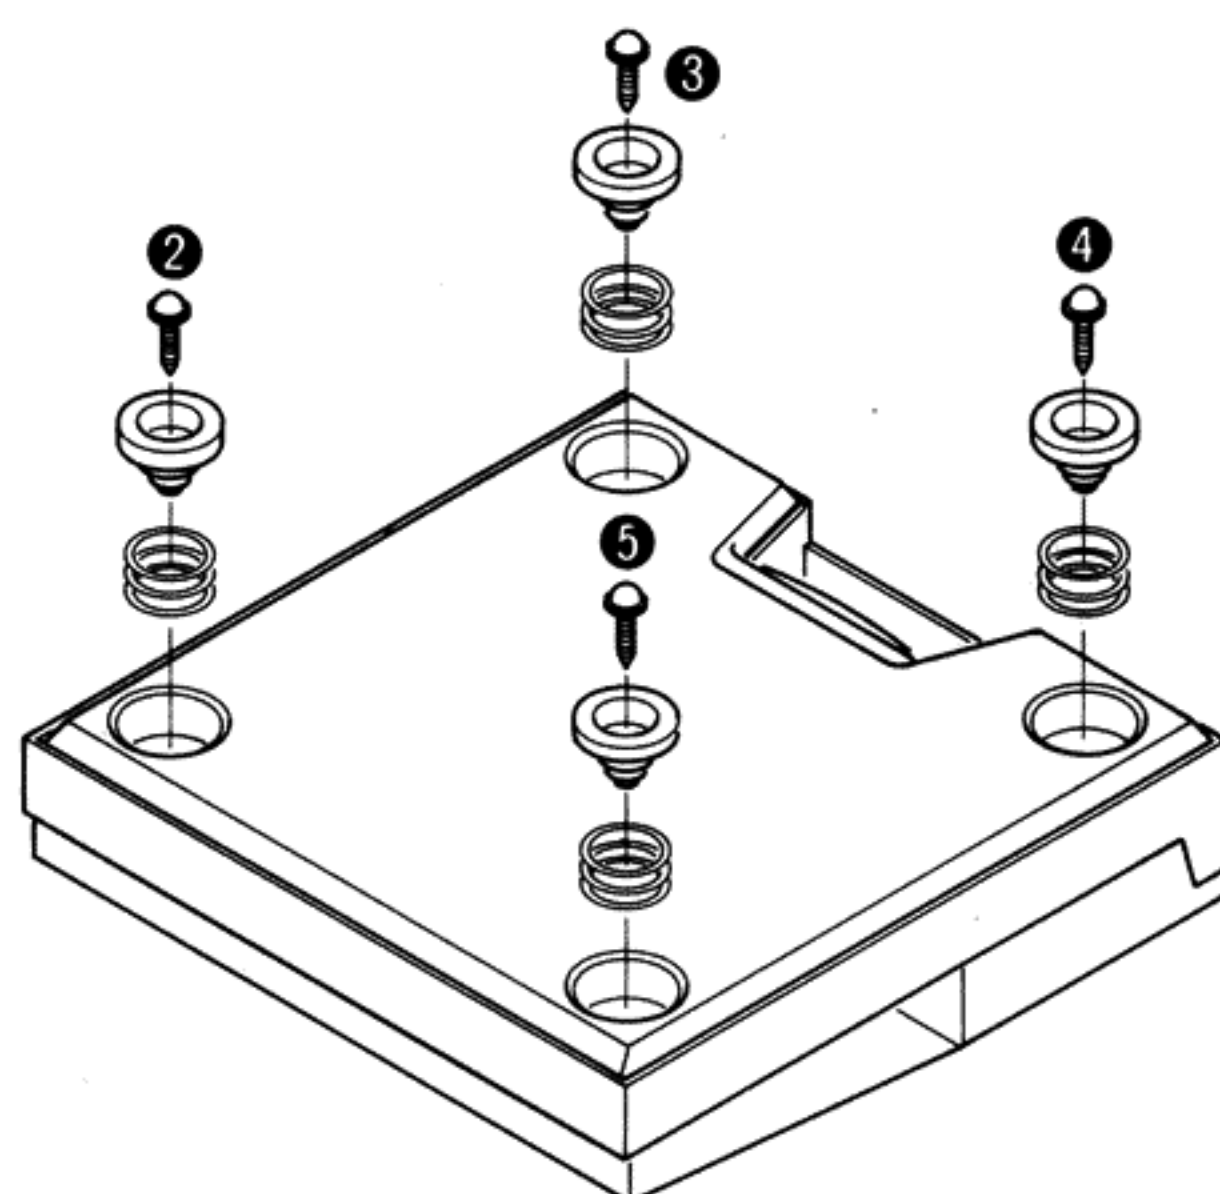

Fig. 4
3. Remove the 4 bottom board setscrews. (Fig. 4: ② ~ ⑤).